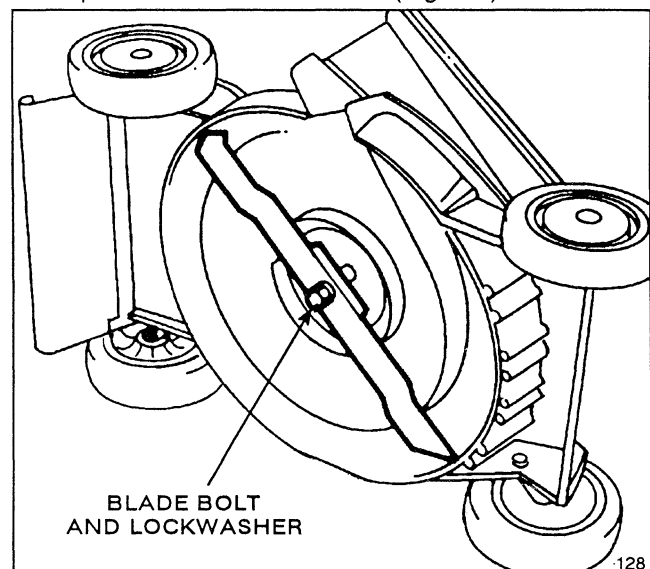

Figure 11
3. Tip mower on its left side (Fig. 11).
5. **REMOVING BLADE**—Grasp end of blade using a rag or thickly padded glove. Remove blade bolt, lockwasher and blade (Fig. 11).